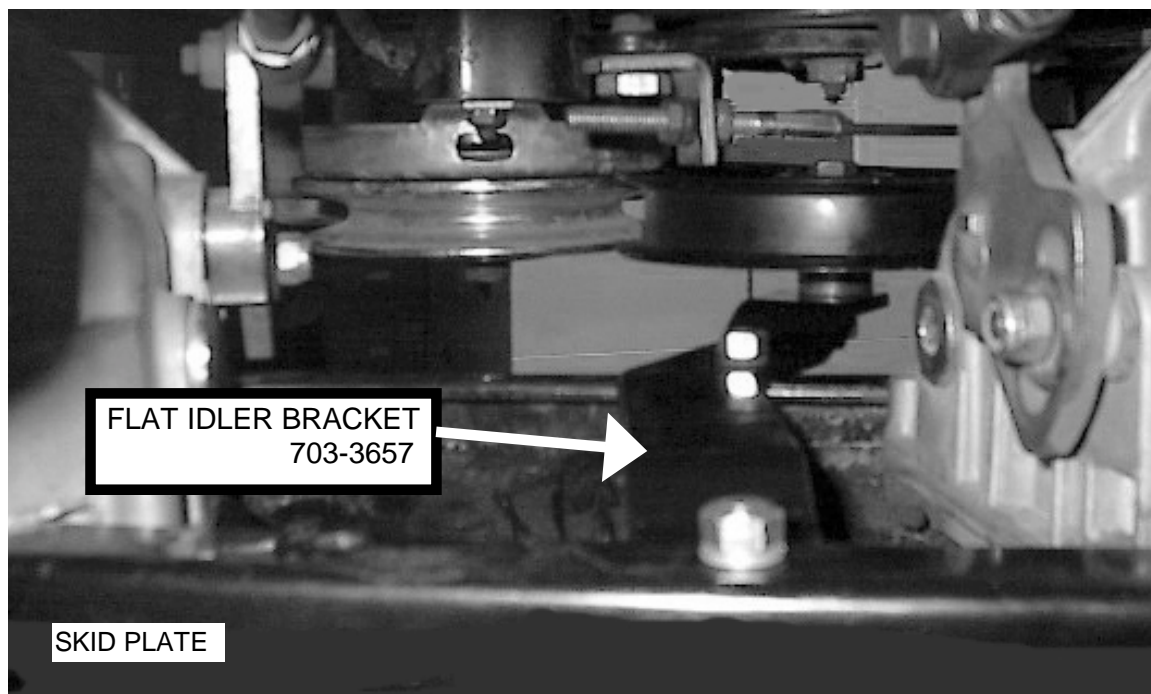

FIGURE 2 NOTE: VIEW FROM UNDER UNIT WITH MOWER DECK REMOVED.
5. Install new idler bracket as shown in figure 2. Note new position of the bracket and bolt hole in the frame.